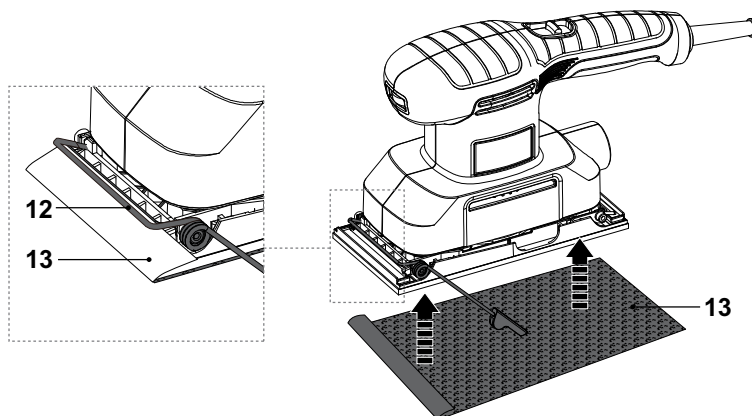

Fig. 5
- > Align one end of the sanding paper (13) to one of the clamp bars (12) and hold it in position (Fig. 5).